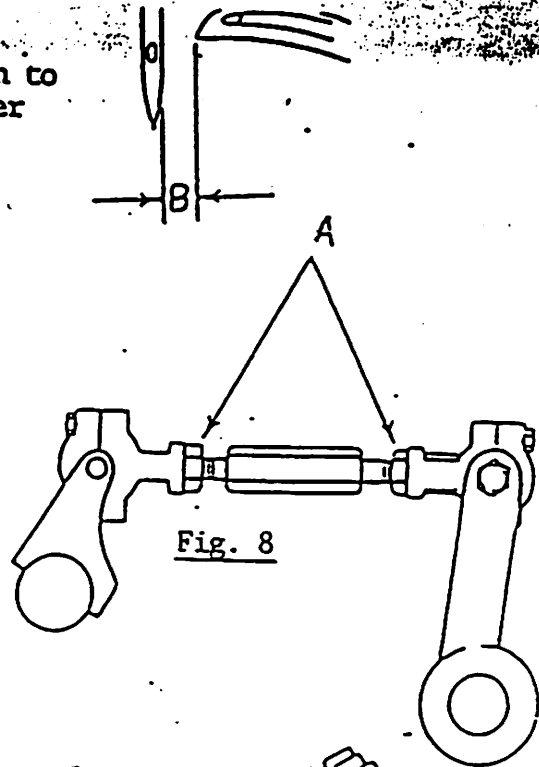

Fig. 8
10) Distance of looper and needle. (Fig. 8)